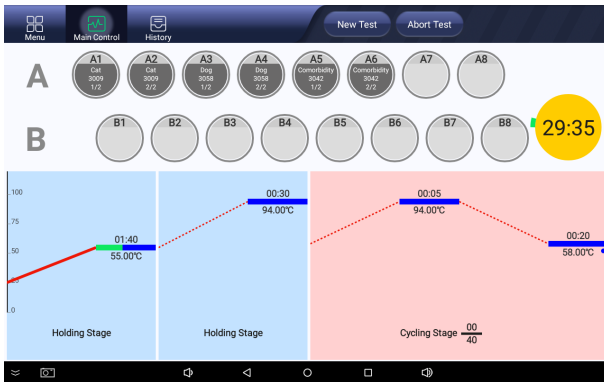

Figure 6.2.2
② Once the preheat is completed, the main control interface displays the test name in each well, test timer, and thermal cycle status in real time, as shown in Figure 6.2.2: